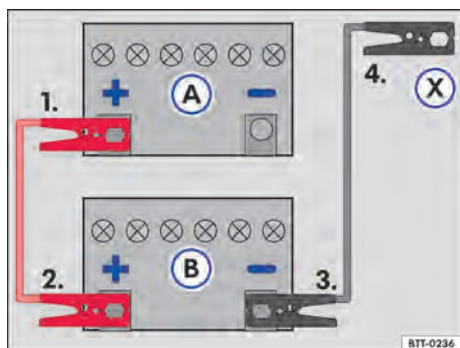

Fig. 180 Jump lead attachment diagram: discharged vehicle battery (A) and battery in the vehicle providing assistance (B).
Key for → Fig. 180:
Connect the jumper cable strictly following the sequence 1 - 2 - 3 - 4 → Fig. 180.
- Connect one end of the *red* jump lead to the positive terminal (+) of the vehicle with the discharged battery → Fig. 180(A) → ⚠️.
- Connect the other end of the *red* jumper lead to the positive (+) terminal of the assisting battery (B).
- Connect one end of the *black* jumper lead to the negative terminal of the assistance supplying battery (B).
- Connect the other end of the *black* jump lead (X) to the vehicle with the discharged battery at the jump starting point (grounding point) or to a metal part firmly bolted to the cylinder block – but not near the battery (A) → ⚠️.